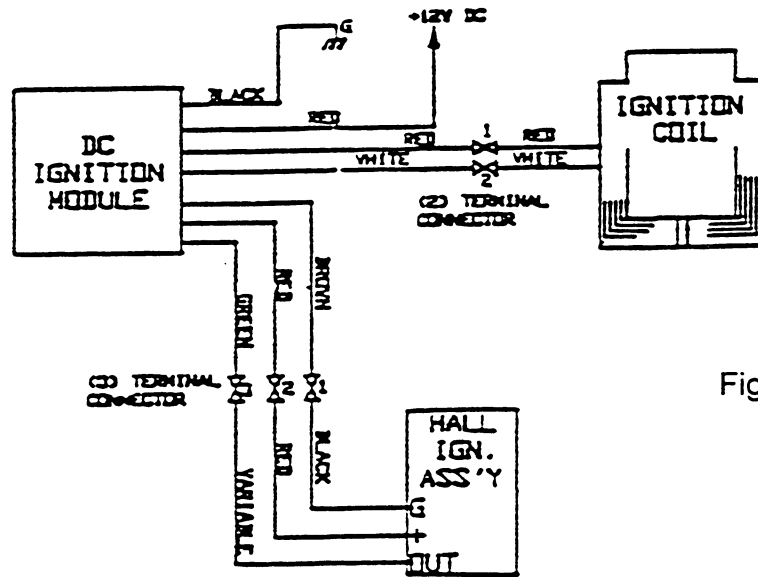

Figure 1
2. Disconnect the three pin connector between the ignition module and ignition sensor. See Figure 1 on page 2.